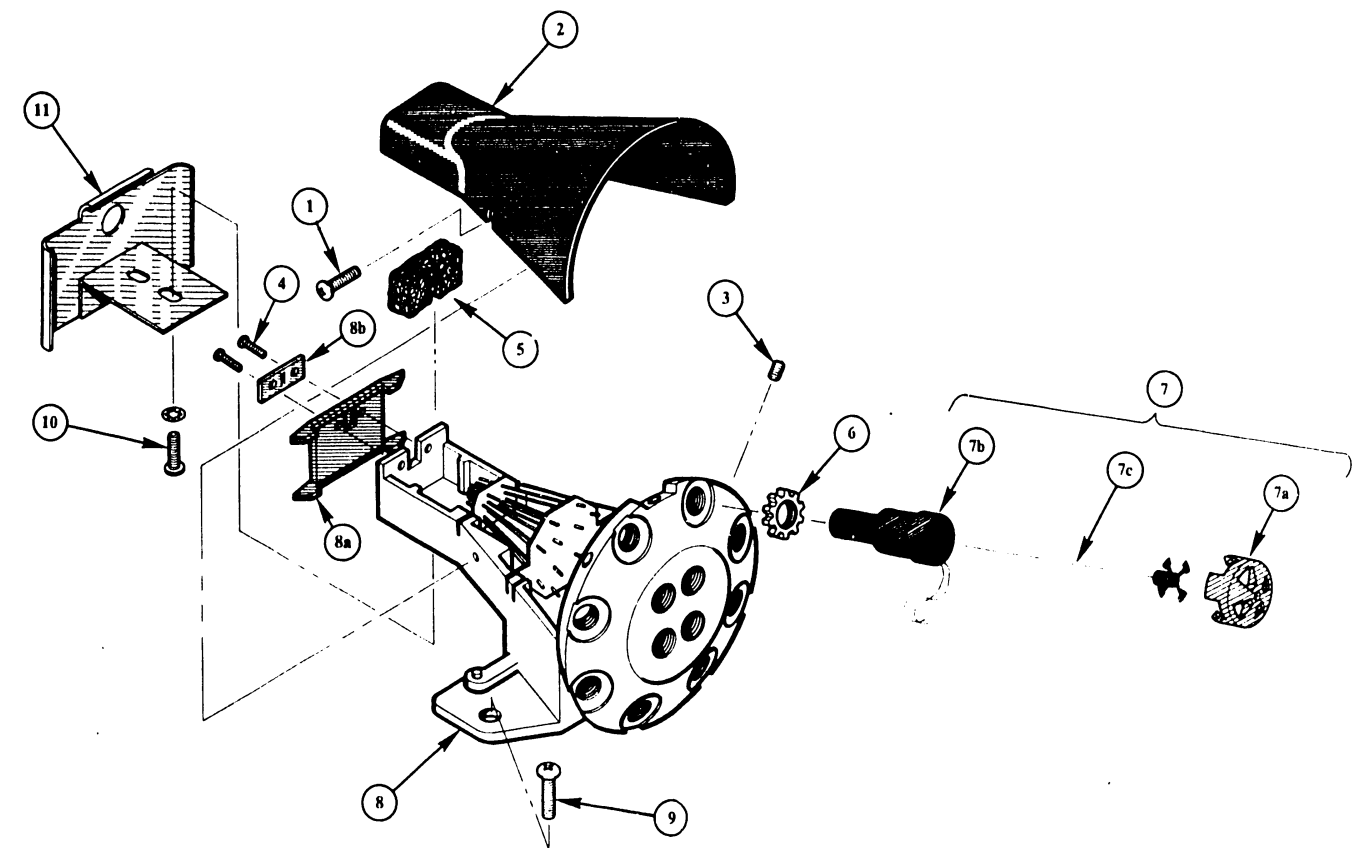

FIGURE 8-5 PRINT HEAD ASSEMBLY
8.3.5 PRINT HEAD ASSEMBLY PARTS LIST (SEE FIGURE 8-5)